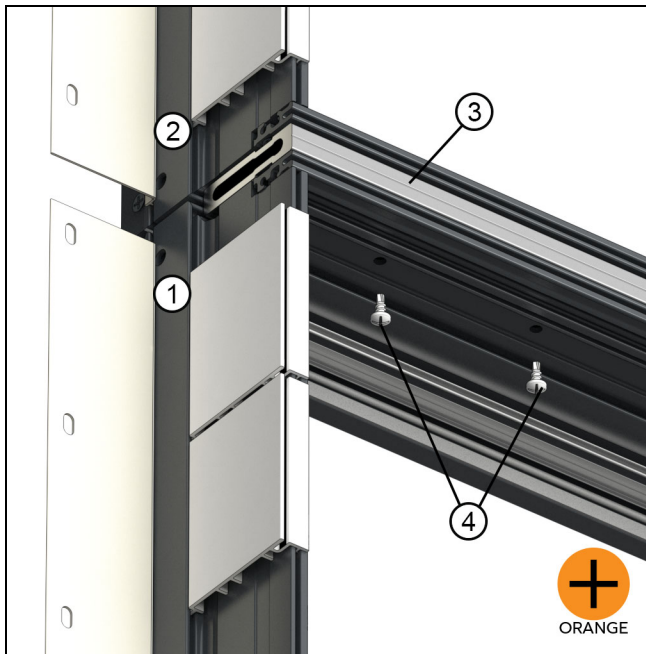

Figure 84
6. Repeat the previous steps until the entire assembly is complete. See Figure 84.